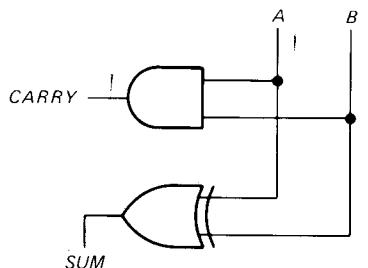

Fig. 3-37
- 3-31.** The inputs A and B of Fig. 3-37 produce outputs of $CARRY$ and SUM . What are the values of $CARRY$ and SUM for each of these inputs?
- 3-32.** In Fig. 3-37, what is the boolean equation for $CARRY$? For SUM ?